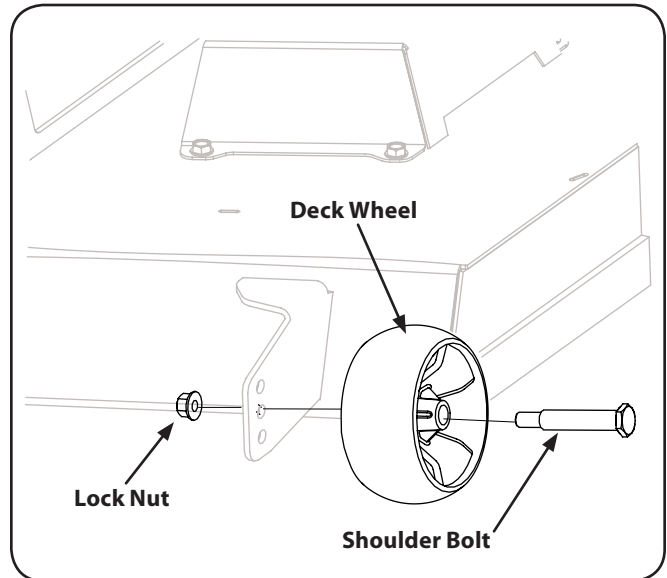

Figure 6-8
- Remove the front and rear deck wheels by removing the lock nuts and shoulder bolts which secure them to the deck. See Fig. 6-8.